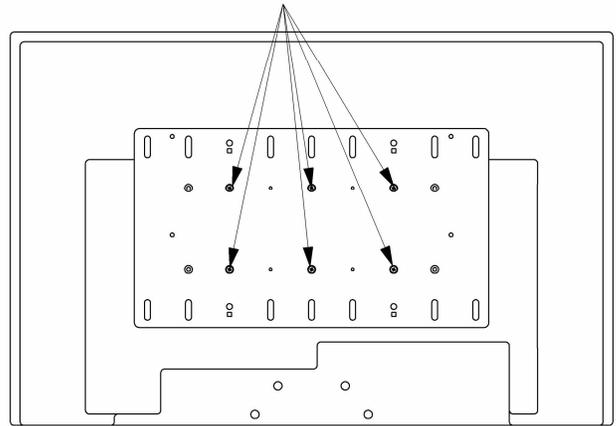

Figure 5. Display with 200mm x 100mm Hole Pattern
1. Select six flat head M4 screws (60) from Bag A and six spacers (130) from Bag C.
2. Attach the interface bracket (20) using the hole-pattern on the back of your display as shown in Figure 5.